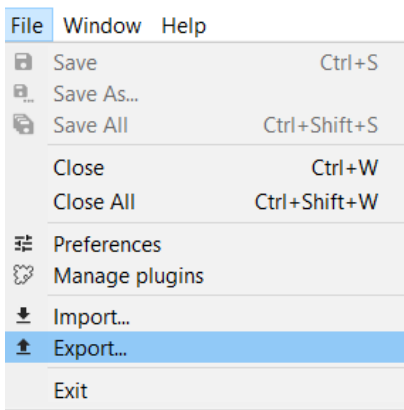

Figure 29: Exporting as EcoSpold, step 1
- To export processes as excel files begin by activating the database from which data should be exported. Then select "File" → "Export" as illustrated in Figure 29. The export wizard will pop up. Select "Processes" in the Excel folder and click "Next". Then select the location where the data should be saved as well as the processes to be saved and click "Finish". Each process will be saved as an individual excel file.